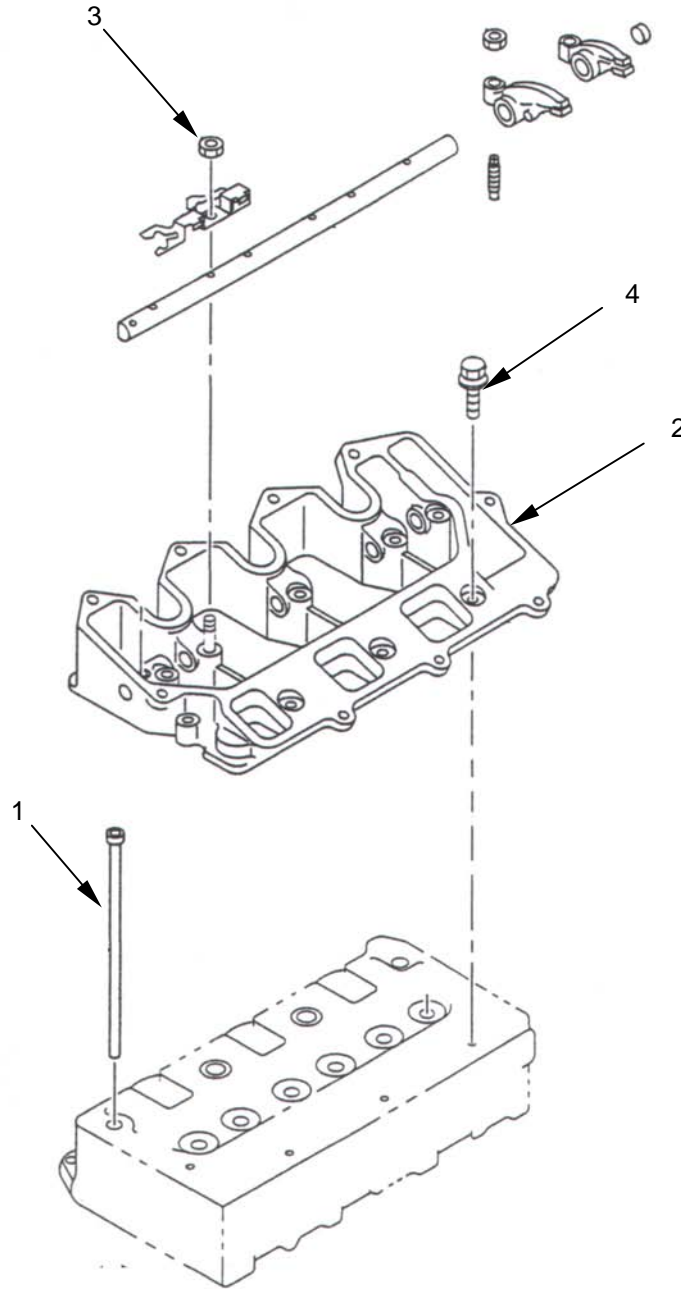
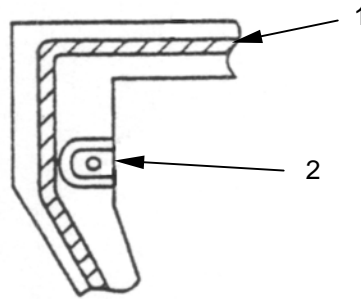

Figure 14. Rocker Bracket Assembly
Figure 15. Oil Galley
- a. Install the push rods (**figure 14, item 1**).
- b. Apply liquid gasket (**figure 15, item 1**) to the bottom of the rocker arm bracket assembly (**figure 14, item 2**). Do not get any liquid gasket in the oil galley (**figure 15, item 2**).
- c. Install rocker arm bracket assembly (**figure 14, item 2**) ensuring push rods (**figure 14, item 1**) align with the rocker arm. Tighten from 0.8 to 1.2 kg-m (6-9 ft-lbs).
- d. Install mounting nuts (**figure 14, item 3**) (qty 5).
- f. Install mounting bolts (**figure 14, item 4**) (qty 4).